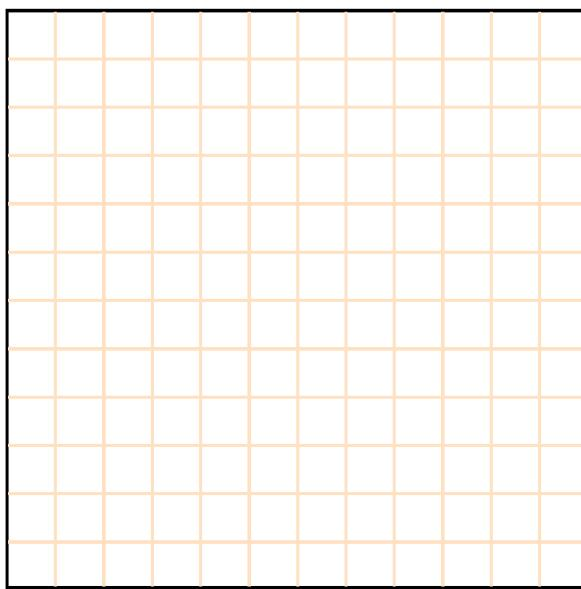

Figure 1-14. Linear and S-shape acceleration patterns.
- 20. Plot the curves showing the linear and S-shape acceleration patterns in Figure 1-14. Place the Time values along the X-axis, and the Frequency values along the Y-axis.